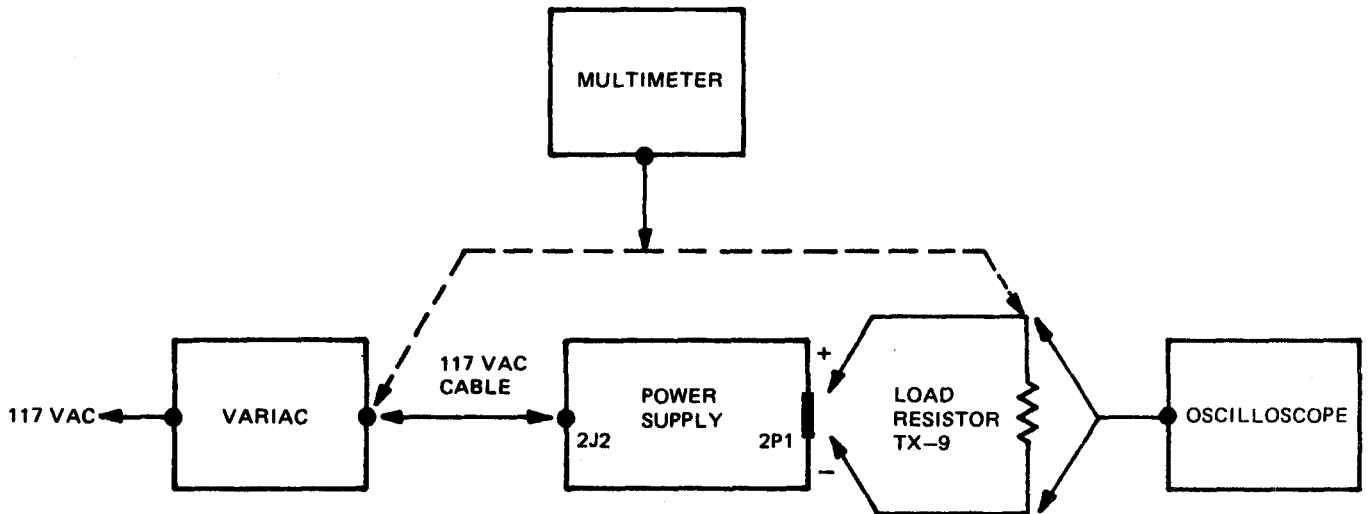

Figure 3-25. Power Supply AC Final Test, Equipment Setup
8. Connect equipment as shown in figure 3-25.